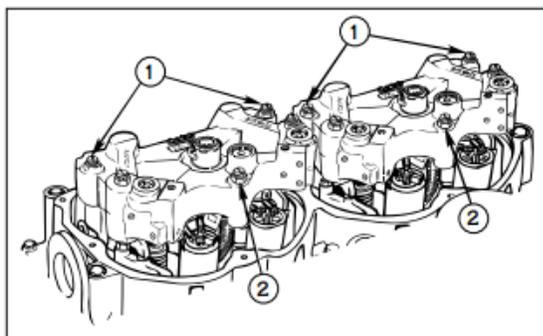

FIG. 11
2. Refer to Fig. 11. Position the engine brake housings on the mounting stud nuts and install the Jacobs hold-down nuts (1) on the brake mounting studs. Torque to 59 lb.-ft. (80 Nm).
3. Refer to Fig. 11. Install the 70 mm bolts (2) through the housing into the spacer (one per housing) and torque to 41 lb.-ft. (55 Nm).